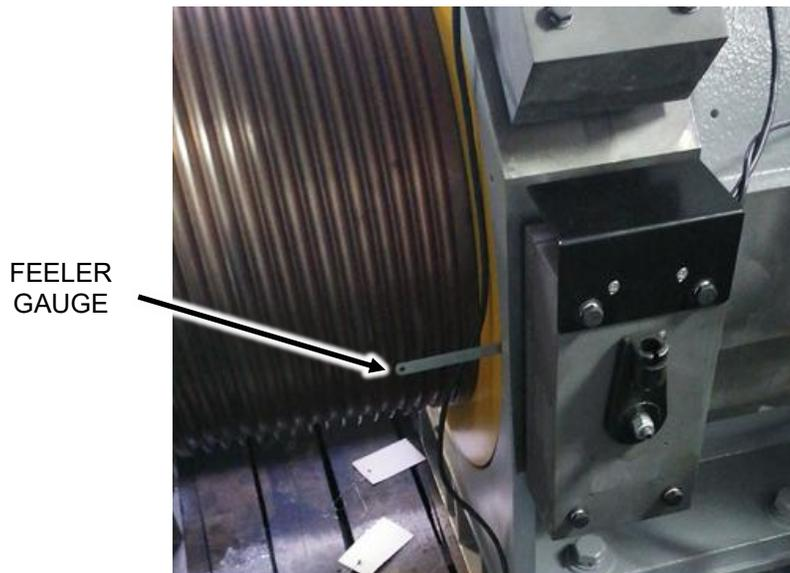

Figure 21
- If brake pad wear is excessive replace the brake pad or replace the entire brake assembly. See Figure 21.